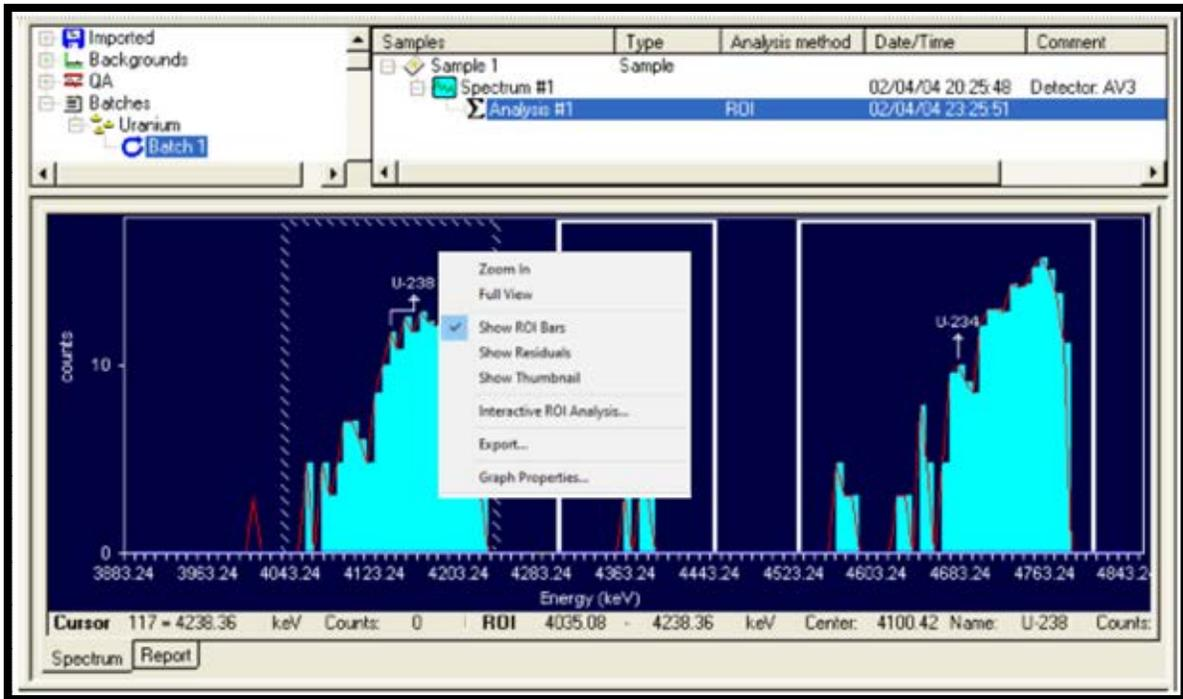

Figure 140. Right-Click and Select Interactive ROI Analysis to Start the Reanalysis
- 5) It is now ready to reanalyze. Right-click in the spectrum window and select **Interactive ROI Analysis** from the right-mouse-button menu (Figure 140). After reanalysis, the energy or channel labels on the X-axis may change.